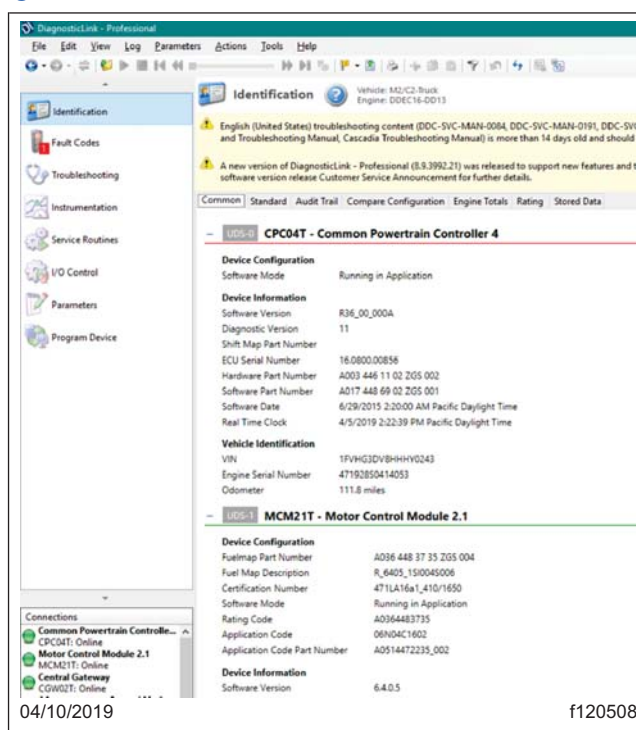

Fig. 1, DiagnosticLink
- 5.3 Select the "Identification" tab, and the "Common" view, then scroll to the Common Powertrain Controller (CPC). See Fig. 1.